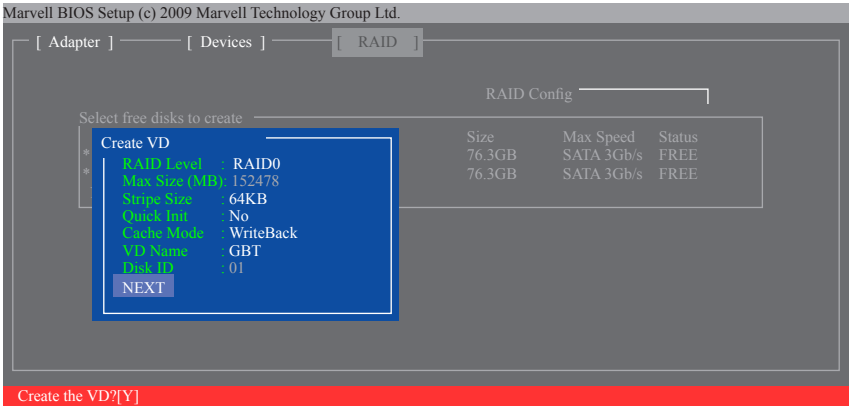

Figure 7
6. **NEXT**: After completing the settings above, move to **NEXT** and press <Enter> to begin creating the array. When prompted to confirm, press <Y> to confirm or <N> to cancel (Figure 7).